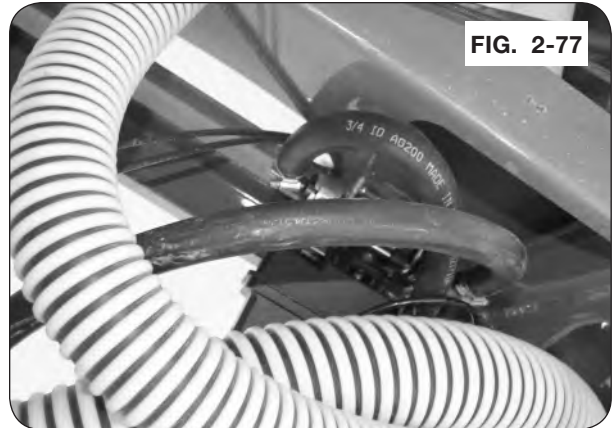

FIG. 2-77
27. Route the hose to the electric ball valve and cut to length and attach to electric ball valve. (FIG. 2-77)